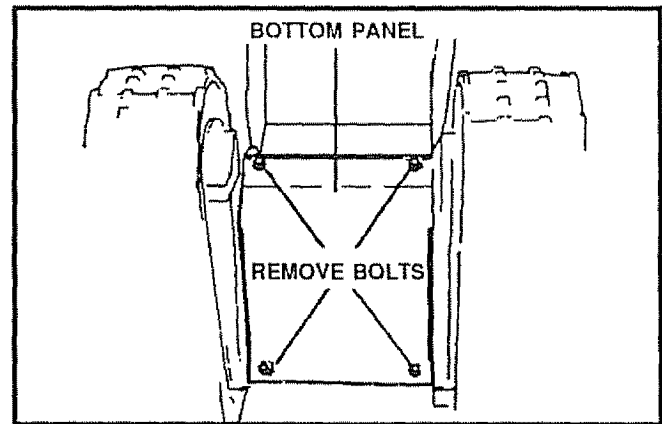
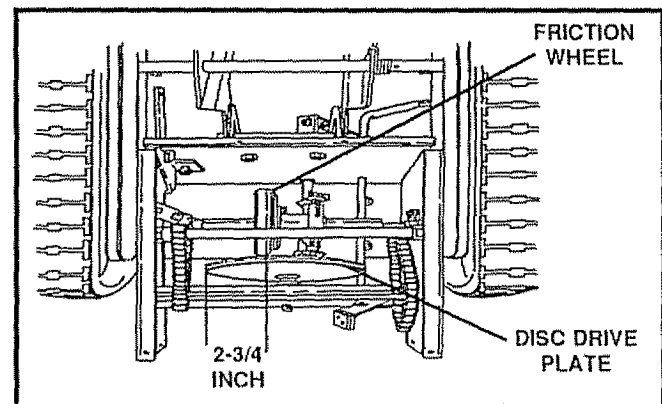

FIG. 28
FIG. 29
- Remove the bottom panel (See Fig. 28).
- Position the shifter lever in first (1) gear.
- Note the position of the friction wheel on the disc drive plate. The right side of the friction wheel should be $2-3/4$ inches from the left outer side of the disc drive plate (See Fig. 29).